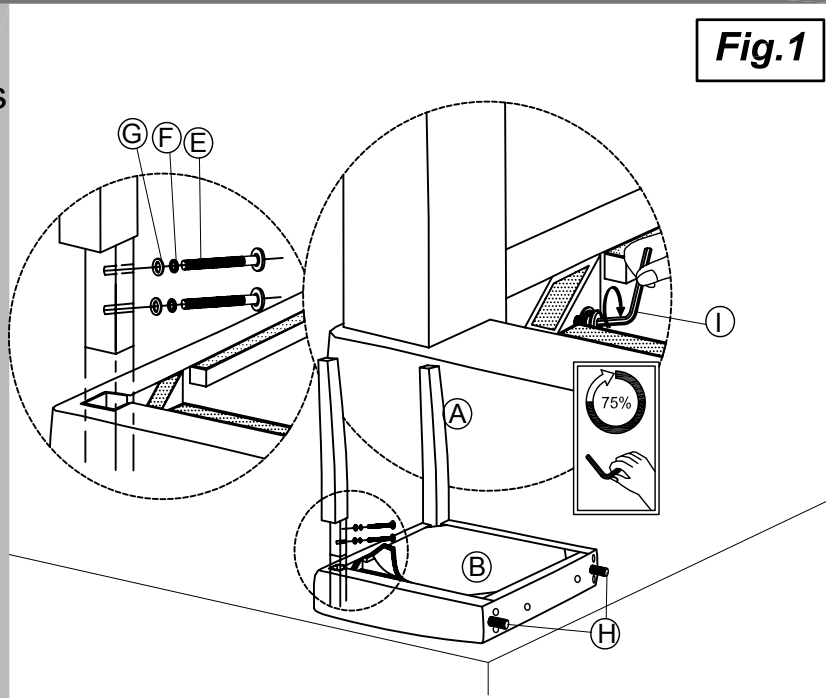

Fig.1
1. Place the chair seat (B) on top of the table. Insert the front legs (A) into the seat as shown in the **fig.1**. Secure the short JCBC screws (E) using spring washers (F) and flat washers (G) as shown in **Fig.1**.
Insert the dowels (H) into the holes of the chair seat as shown in **Fig.1**.